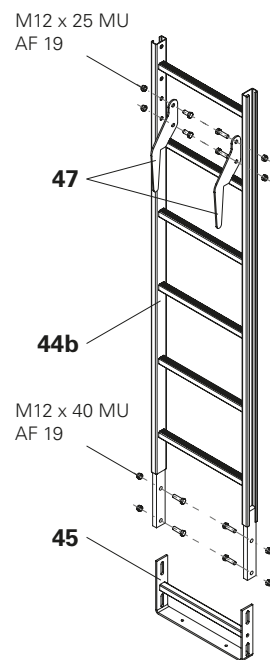

Fig. A1.41
- Fix ladder hook (47) to Ladder 180/6 (44b) at the top using bolts and nuts M12 x 25. (Fig. A1.41)